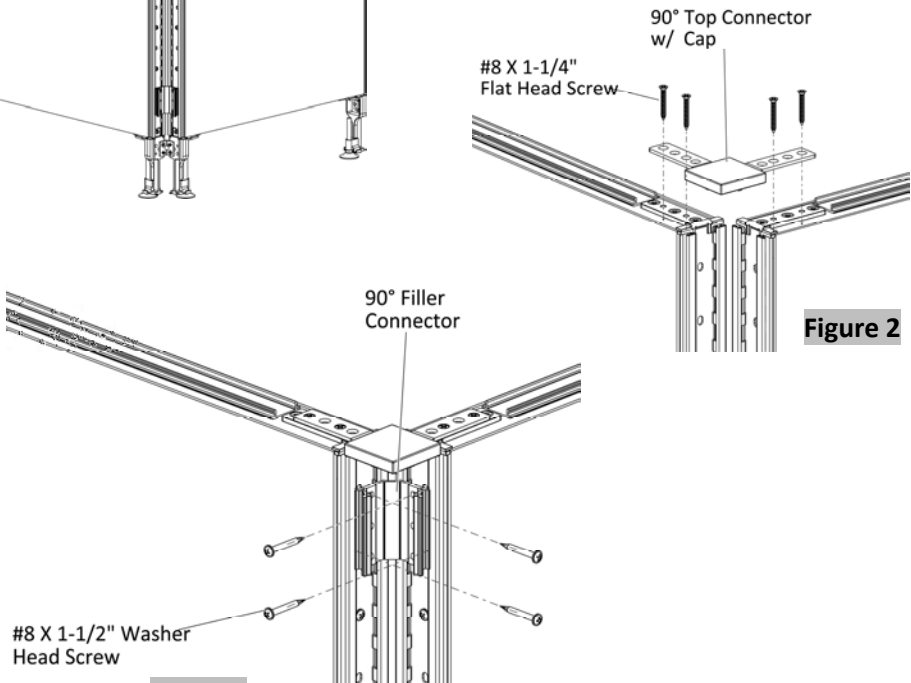

Figure 2
- 3. Position 90-degree top connector with cap on top corner of the panel which is to be connected, (Figure 2).
3. Position 90-degree top connector with cap on top corner of the panel which is to be connected, (Figure 2).